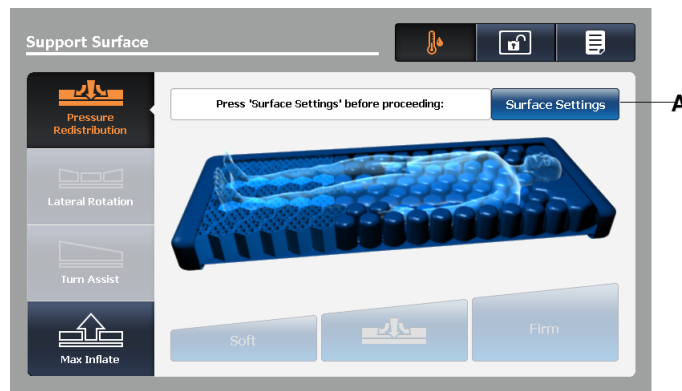

Figure 50 – Pressure redistribution screen
Tap **Surface Settings** on the Pressure Redistribution screen (A) (Figure 50).